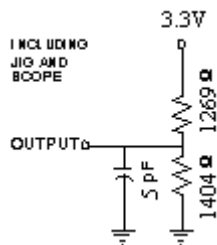

FIGURE 1B
6. Transition is measured  $\pm 500\text{mV}$  from steady state with  $C_L = 5\text{pF}$  as shown in Figure 1B. The parameter is guaranteed but not 100% tested.
10. Transition is measured  $\pm 500mV$  from steady state with  $CL = 5pF$  as shown in Figure 1B. The parameter is guaranteed but not 100% tested.